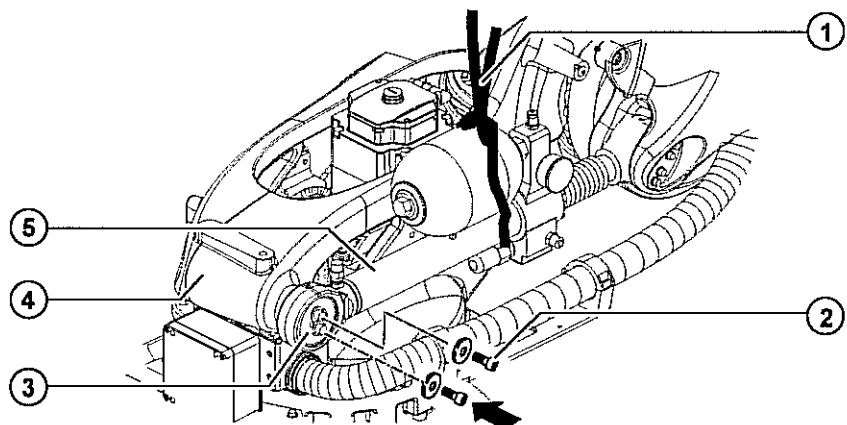

Fig. 12-24: Installing the counterbalancing system: rotating column
5. Lift the counterbalancing system with a rope sling and bring it to the site of installation (>>> Fig. 12-24).